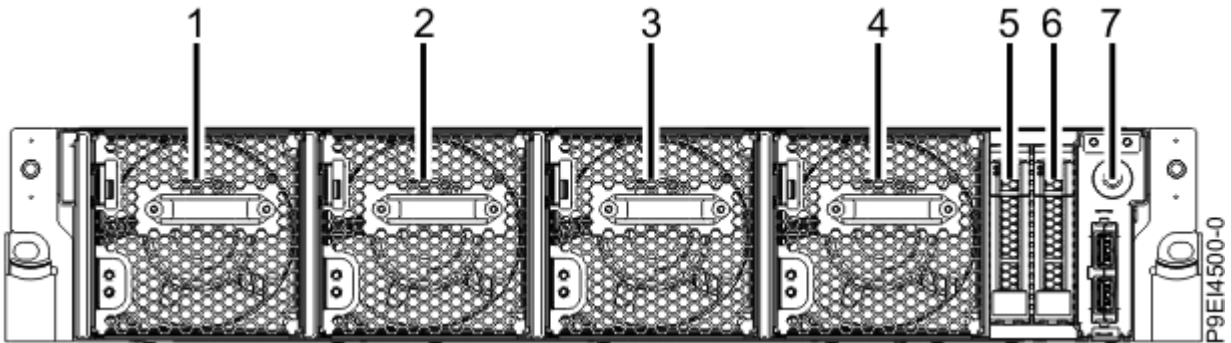

Figure 18. Drive locations; positions 5 and 6
1. Determine the slot in which you want to install a disk drive. The disk drive slots are in the front of the system in positions 5 and 6, as shown in Figure 18 on page 21.